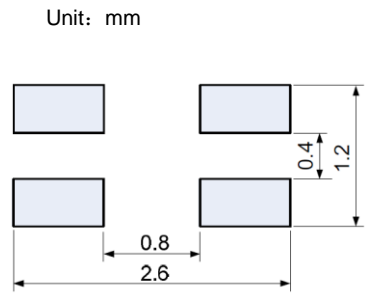

Fig.4-5
- h) Recommended PCB pattern for reflow soldering: See **Fig. 4-5**.